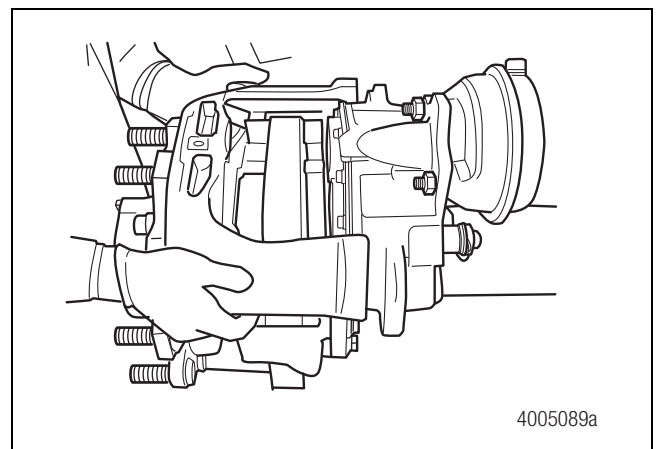

Figure 5.58
1. Position the bridge against the caliper housing assembly. Figure 5.58.